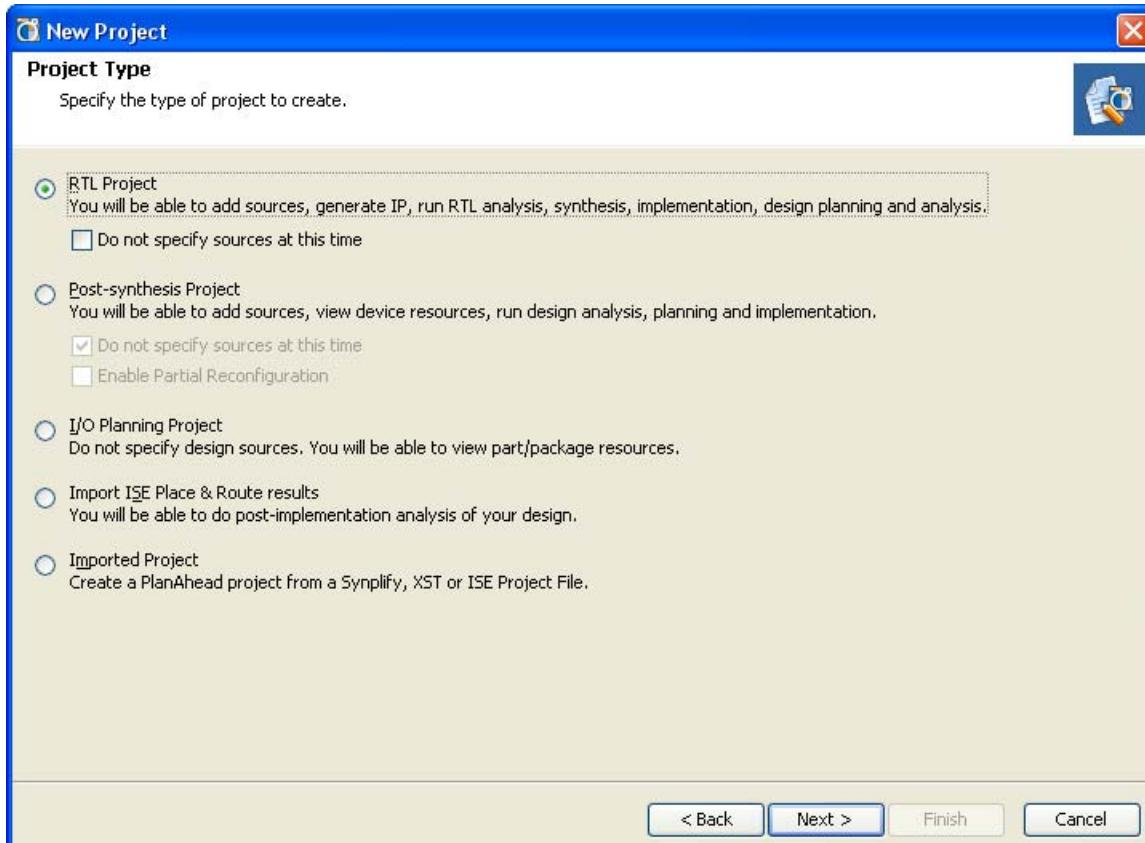

Figure 3-2: New Project Wizard: Project Type
Designate the Project Type by selecting one of the options shown in Figure 3-2, page 42. This selection determines the type of source files that can be associated with the project.
2. In the Project Type page shown in Figure 3-2, select the **RTL Project** option.